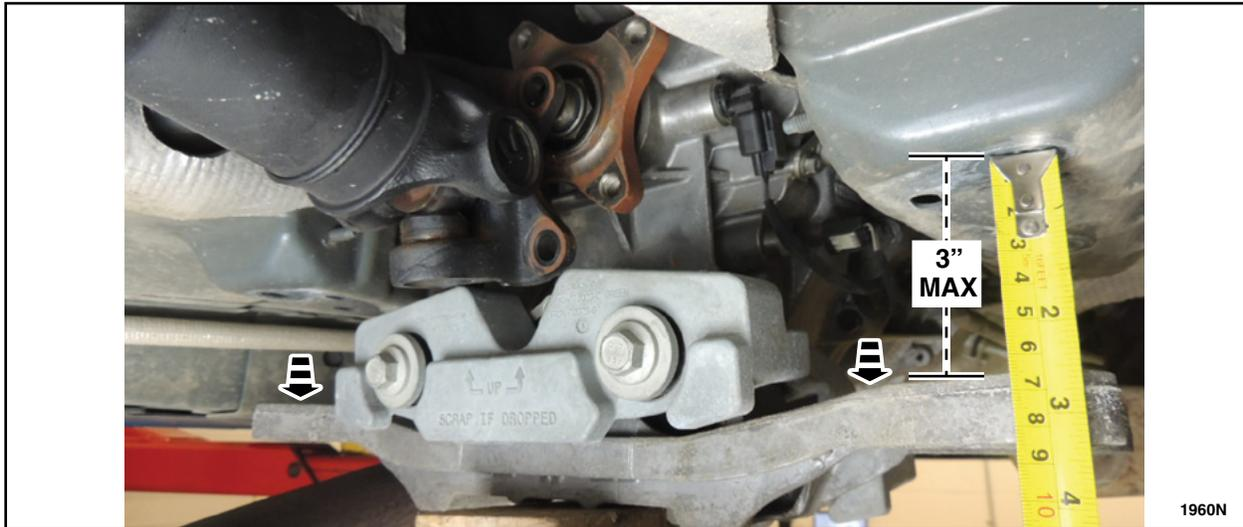

FIGURE 13
14. Using the jack stand, lower the transmission crossmember no more than 3 inches with the driveshaft positioned on top. See Figure 13.